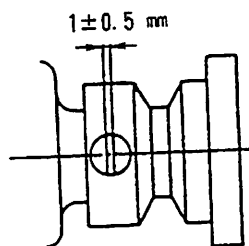

Fig. 5-43-2
- When fixing the handwheel, be sure that setscrews No. 1 are located on the flat part of the main shaft (observed from the correct rotational direction of rotation of the handwheel). At this time, adjust the clearance between the generator stator and the handwheel so that it is 1 ± 0.5 mm. (Fig. 5-43-2)